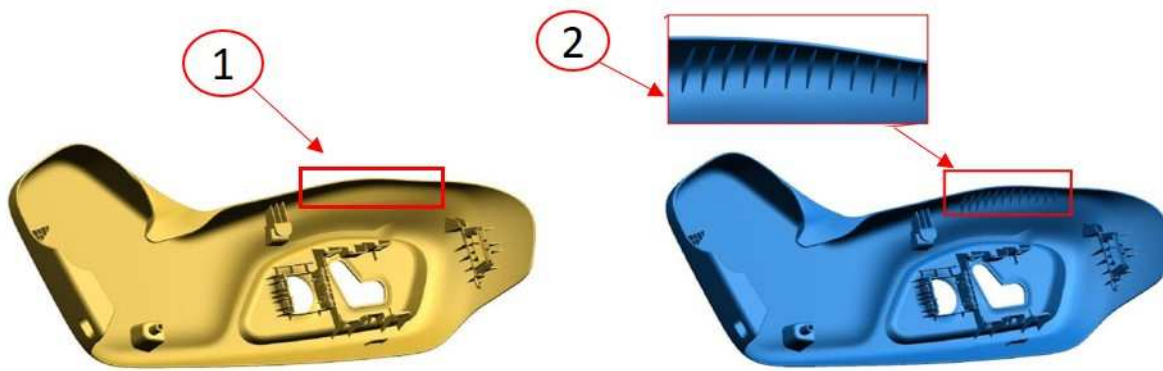

Fig. 5
6. Discard the old trim piece, then verify that the new trim piece has the reinforced design (Fig. 5) .